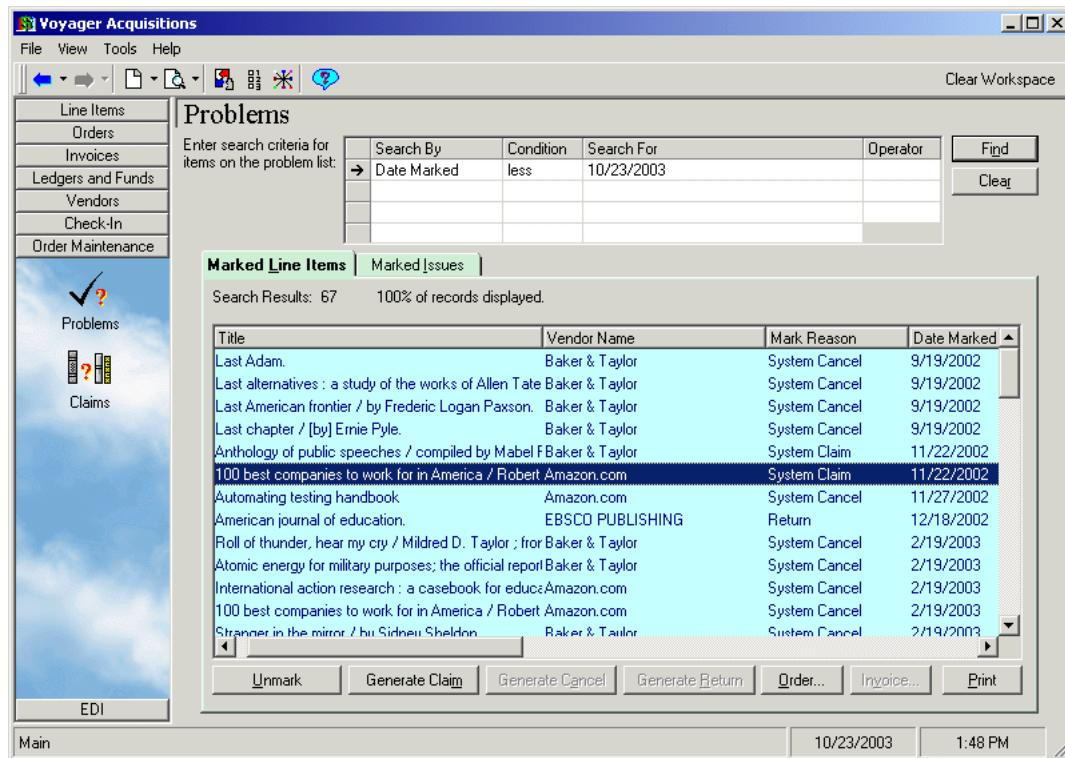

Figure 2-55. Problems work space search results
7. To process an item, select it and click the wanted action button (see Figure 2-55).